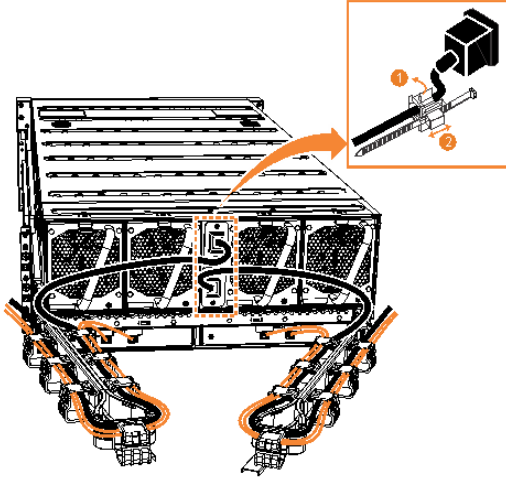

Figure 52. Secure power cables
2. Secure the power cables in the cable retainer at each power connector on the rear of the enclosure, as shown in Figure 52 on page 94. Also, ensure that each cable is installed along one of the cable management arms. The cable management arms also support the SAS cables.